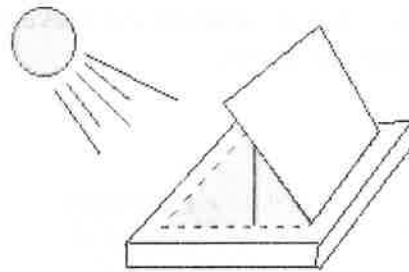

Figure 6: We position our ovens to maximize insolation collection.
We can use our knowledge of solar angular incidence to optimize the amount of radiation our ovens receive. We always want to be gathering light at or around 12 o'clock noon in order to capture the strongest radiation of the day. For every minute before or after 12 noon, the Sun will be lower in the sky, creating a smaller angle of incidence, and weaker solar insolation. During the summer, we will achieve the greatest temperatures for our oven as the Sun reaches its highest angle, allowing us to capture more direct sunlight; while in the winter, we will record our lowest temperatures for the opposite reason. The fall and spring seasons will give us mid-range results. Due to the fact that we live in the northern hemisphere, we want to direct our ovens south. This is because the equator always receives the strongest insolation and it is located south of us (See Figure 6). (7)